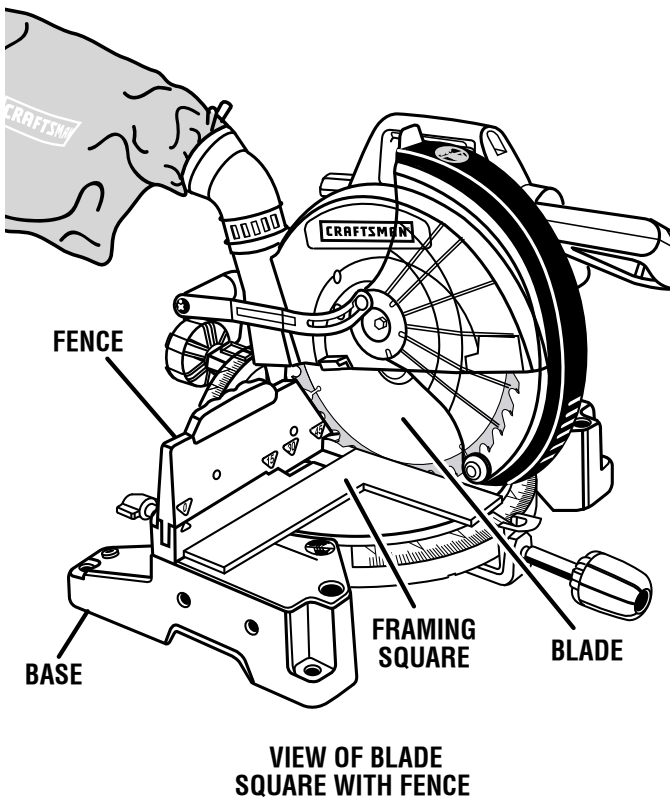

Fig. 24
See Figures 24 - 27.
- The edge of the square and the blade should be parallel as shown in figure 24.